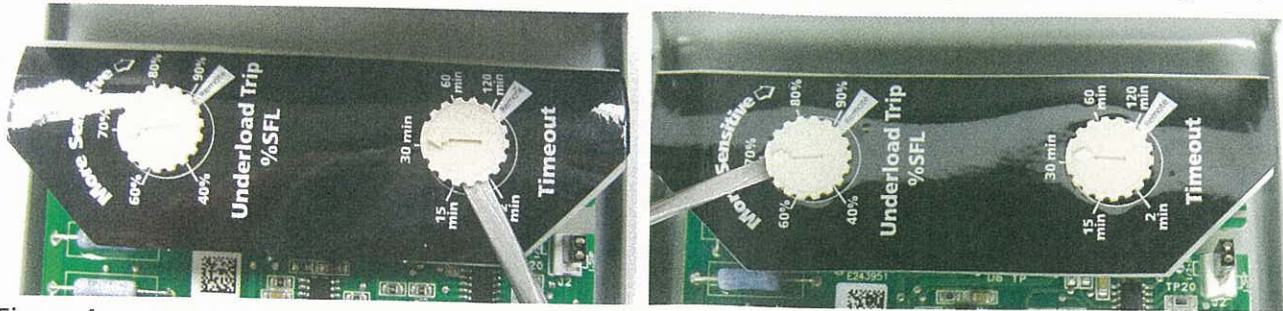

Figure 4
4. Use flat head screwdriver to remove underload sensitivity and timeout adjustment knobs (Figure 4).